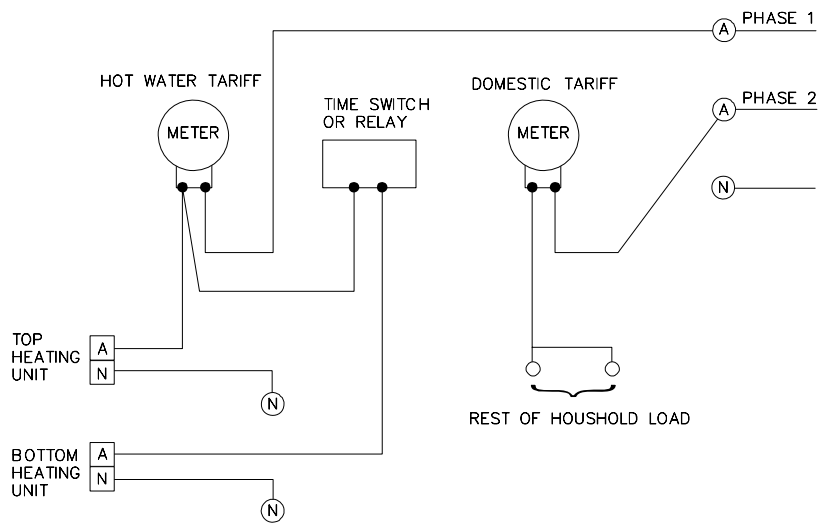

Fig. 5.6: Electrical connection of twin-element water heater (off-peak only)
- ▶ **Figure 5.6** illustrates using the off peak tariff for both heating units. Whilst power is always available to the booster heating unit, energy is charged at the off peak rate. (This method of wiring is allowed in certain areas only.)